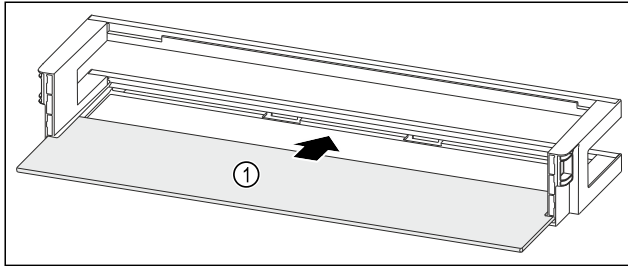

Fig. 87 Door rack with shelf
- Push the shelf Fig. 87 (1) into the side recesses.